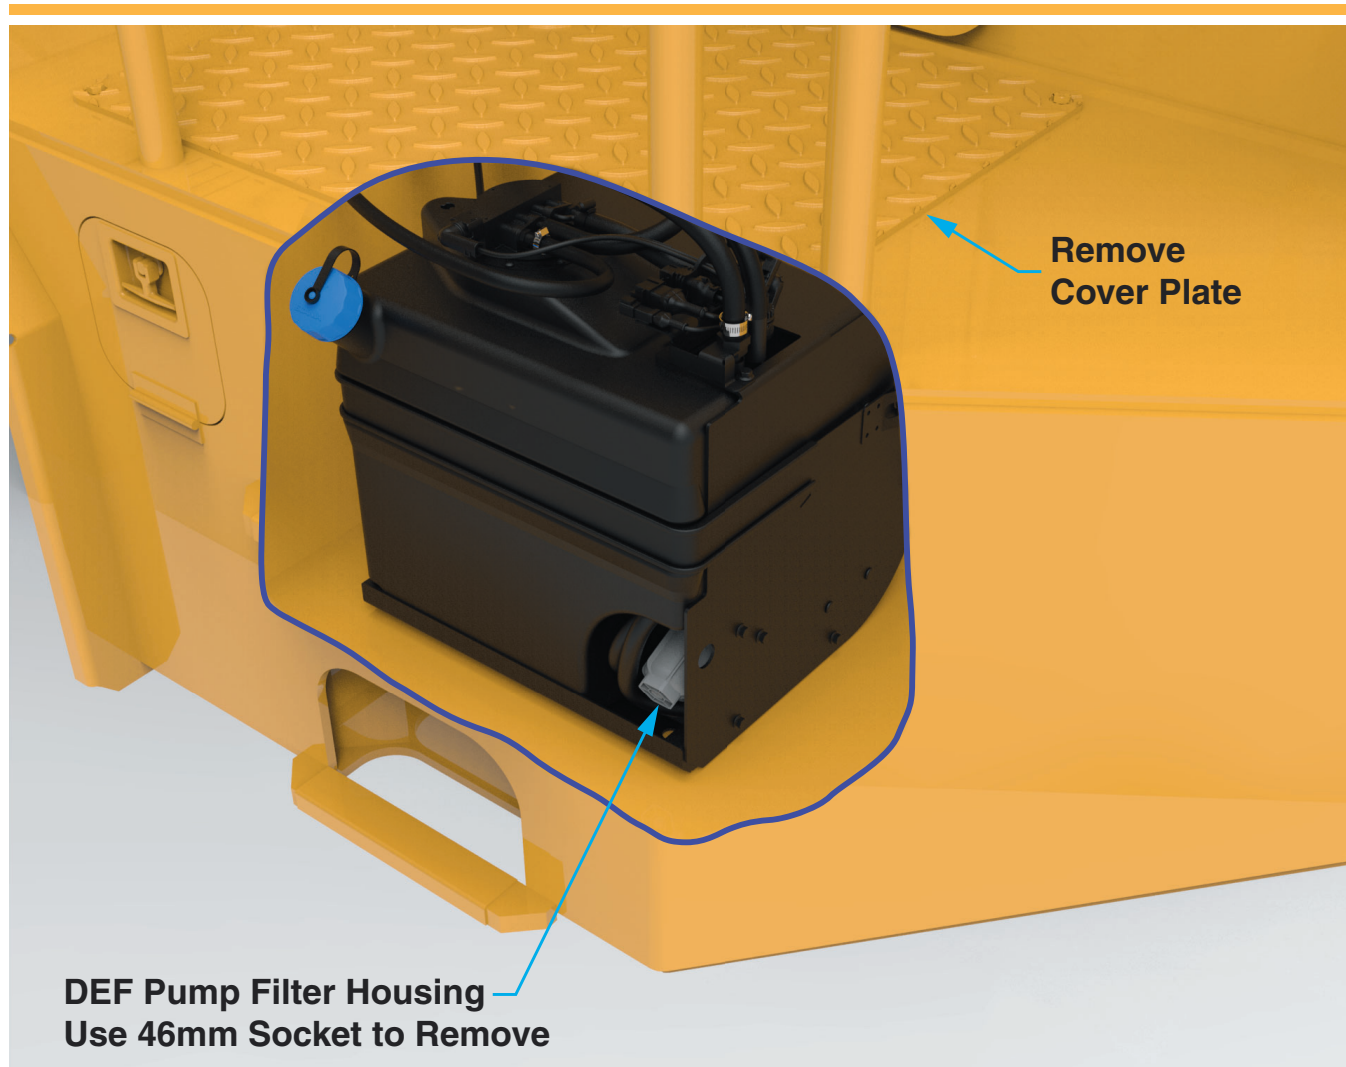

Figure 5-5-14 DEF Pump Filter Location
2. Clean the area around the horizontal cover plate on the left side of the chassis to prevent chips from falling into the DEF tank compartment. See Figure 5-5-14.